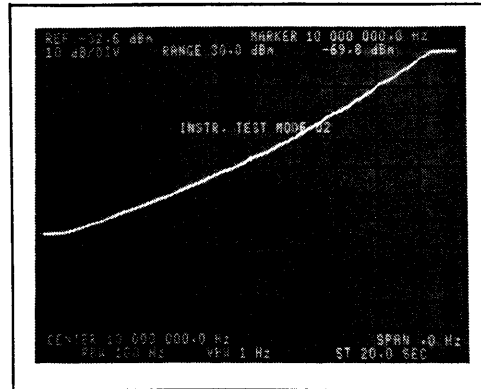

Figure 11-P-16. IF Gain Test Display
**Rotate  slowly and smoothly in a counterclockwise direction to produce a linear ramp response similar to the one shown in Figure 11-P-16. If there are any significant discontinuities, cusps or "glitches" in the ramp, rotate  clockwise until the beeper sounds, clear the trace by pressing CLEAR A and then repeat the test. Reappearance of the discontinuity indicates trouble in the IF gain switching (Service Group A-3) or video offset circuitry (Service Group A-5).**